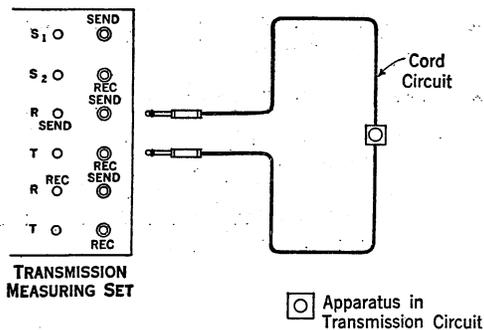

Figure 1
- 2.04 Figure 1 shows schematically the connections for the test.